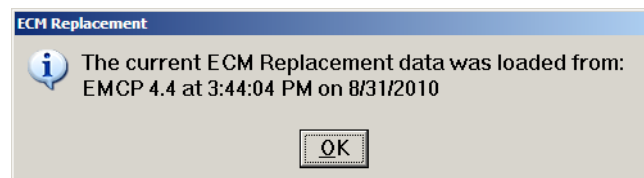

Figure 17.5 – Load from File
4. The software will confirm opening the file. See Figure 17.5. Click "OK."